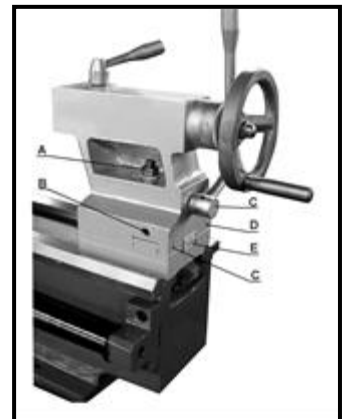

Fig. 17
Loosen the nut (A, Fig. 17), handle (C), and two screws (D), then adjust screw (B) to offset the quill centerline from the spindle centerline. To obtain the desired taper, refer to the value on the scale plate (E).